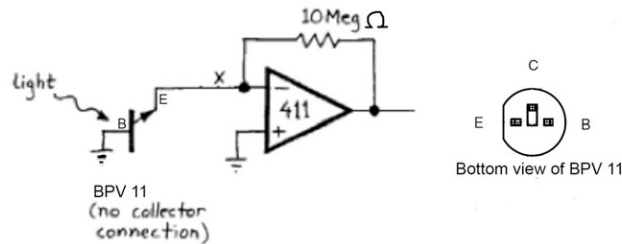

Figure 4.5: Photodiode photometer circuit.
Use a BPV 11 phototransistor as a photodiode in the circuit in Figure 4.5; the lead with the arrow is the emitter (E) and the lead that is grounded is the base (B). Here, light is converted directly into an electrical current and thus the photodiode serves as a source of current. Why does the above configuration of the op-amp approximate an ideal ammeter (1 pt)?